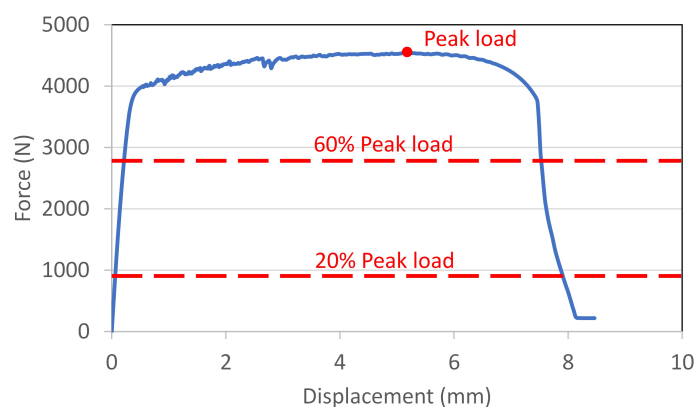

Figure 2: A typical load-displacement curve obtained for a dogbone specimen.
- Young's modulus (E)
To perform the test, we use a universal testing machine by INSTRON (Model 8862 with ± 100 kN loading capacity) as shown in Figure 1. The type of fixtures used in this machine can be changed to accommodate tensile, compressive, and flexural experiments. In this session, we deal with the tensile setup. The data obtained from this test are the load (F) measured by the load cell, the machine displacement (d) and, if a crack-mouth opening displacement (CMOD) gauge is installed, the elongation Δ of a portion of material with length equal to the gauge length L_G (in our case $L_G = 10$ mm). A typical load-displacement curve obtained with a dogbone specimen is shown in Figure 2.
To obtain the tensile strength, it is enough to find the peak load (as illustrated in Figure 2), and then divide it by the initial area A_0 . Also, to identify the flexural modulus of the tested material, it is customary to consider as linear elastic region the part of the engineering strain vs. stress curve within a range of 20% – 60% of the peak load. Therefore, the Young's modulus E can be obtained as the slope of the linear relation best-fitted to the linear range of the stress-strain data points.